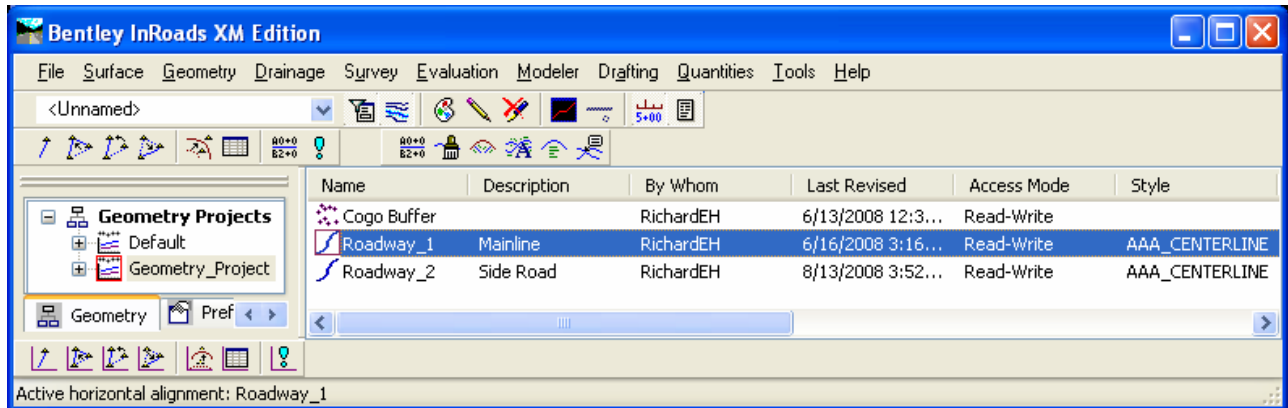

Figure 1-5 InRoads Interface
The left window, the Workspace Bar, contains a listing of active data. In Figure 1-5 the Geometry Project information is listed. The red square near the + symbol indicates the active Geometry Project. A right mouse click on geometry listed in the Geometry window will activate a shortcut dialog with options to Save, Copy, set Active, etc. Tabs at the bottom of the window allow users to toggle to the different data files types (i.e. Surface Data, Template Library File etc.) that are loaded with the project.
The right window displays information about data contained in the geometry project. In Figure 1-5 there are two (2) horizontal alignments listed and the COGO buffer. Again, the red square indicates the active horizontal alignment. The importance of active data will become more apparent in later sections of this manual. Each horizontal alignment has a name and description. As the scope and volume of data for each project increases, the description becomes more important. Therefore, all alignments should have meaningful descriptions.